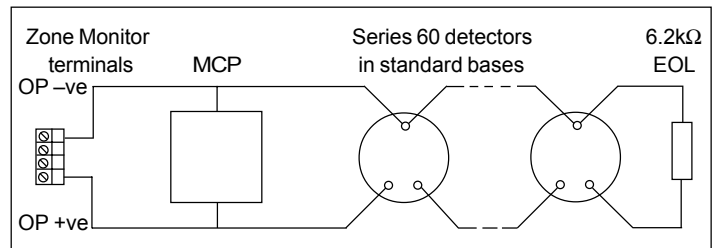

Fig.2 Zone connection - standard bases with 6.2 k Ω monitoring resistor at end-of-line
- 4. Manual call points can be located at any point in the zone wiring if active end-of-line monitoring with diode detector bases is used. If a 6.2 k Ω resistor is used for monitoring, manual call points must be connected between the Zone Monitor and the first detector (see Figure 2).*